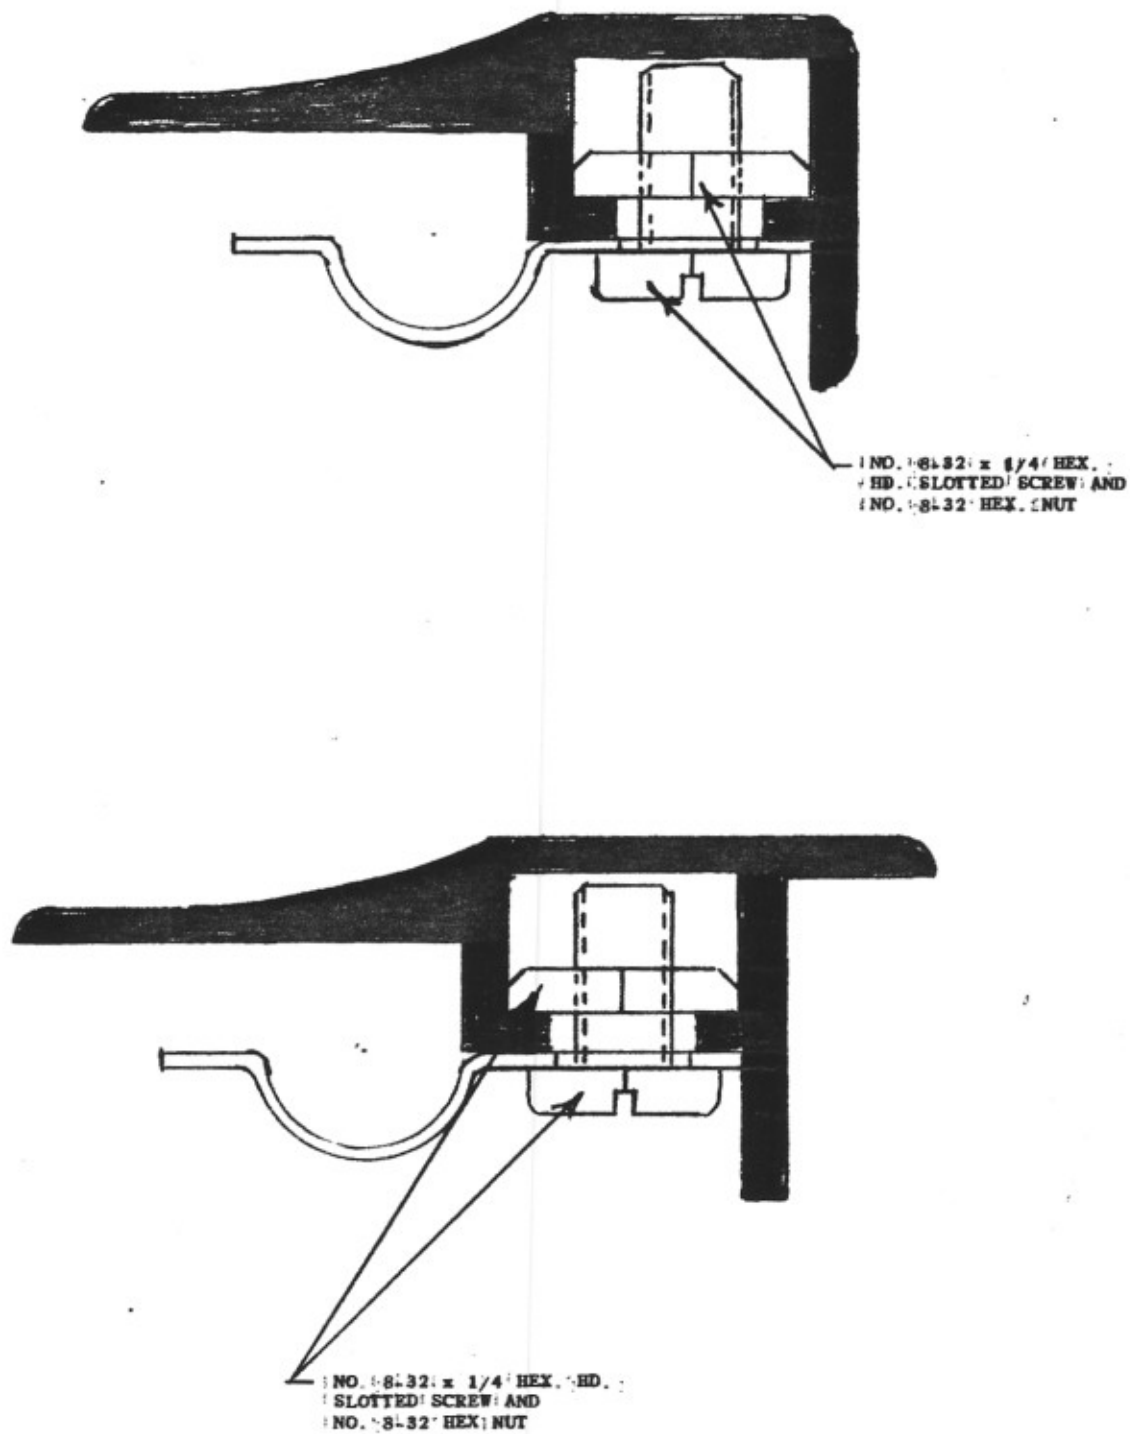

Figure 129
MIRRORS: All mirrors, excepting those on Bedroom Folding Partitions, are encased in an aluminum anodized mirror frame, Alto Manufacturing Co.'s make. This is a solid frame in which mirror is retained by eight (8) clips, two on each side, see figure 129, held in place by 2, No. 8-32 1/4" hexagon head slotted screws and 2, No. 8-32 hexagon nuts which slide in a groove in frame to desired position. Mirrors of the following sizes are used in locations shown.